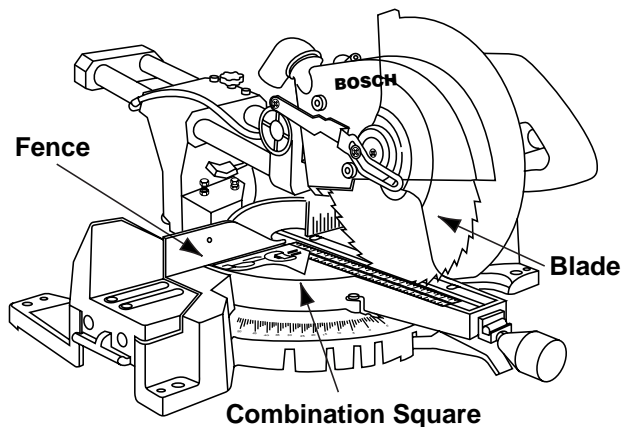

Figure 10. Blade Square to Fence
2. Lower the head assembly, pull the lock pin out and rotate it 90°, rotate to lock in the lower position. Make sure table is in 0° detent and tighten miter lock knob. Place a combination square against the fence and next to the blade as illustrated. Locate the square properly so it does not contact the tooth of saw blade. The saw blade should contact the full length of the square (Figure 10).